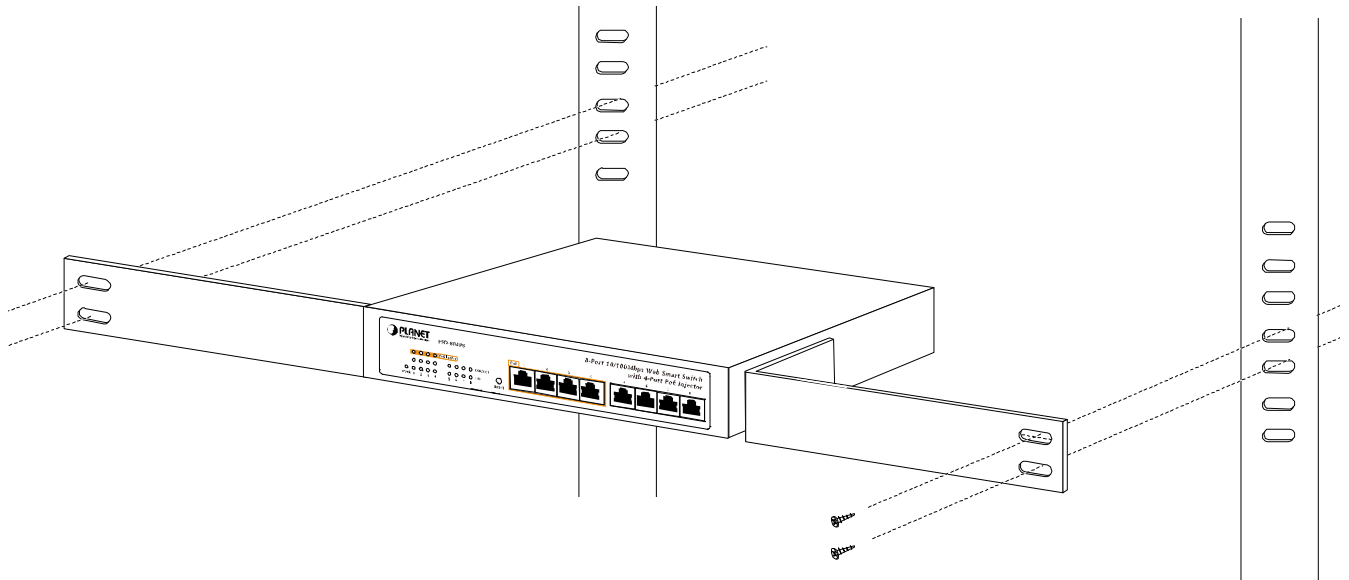

Figure 2-6 Mounting the Switch in a Rack
Step5: After the brackets are attached to the Switch, use suitable screws to securely attach the brackets to the rack, as shown in Figure 2-6.